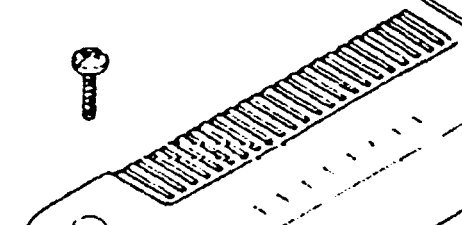

FIG 1.
- 1.1 Open and lift the top cover to remove (Fig 1.)
- 1.3 Remove 4 screws fixing the upper cover and remove, at the same time carefully unplug the paper out sensor from the main P.C.B. (Fig 1.)